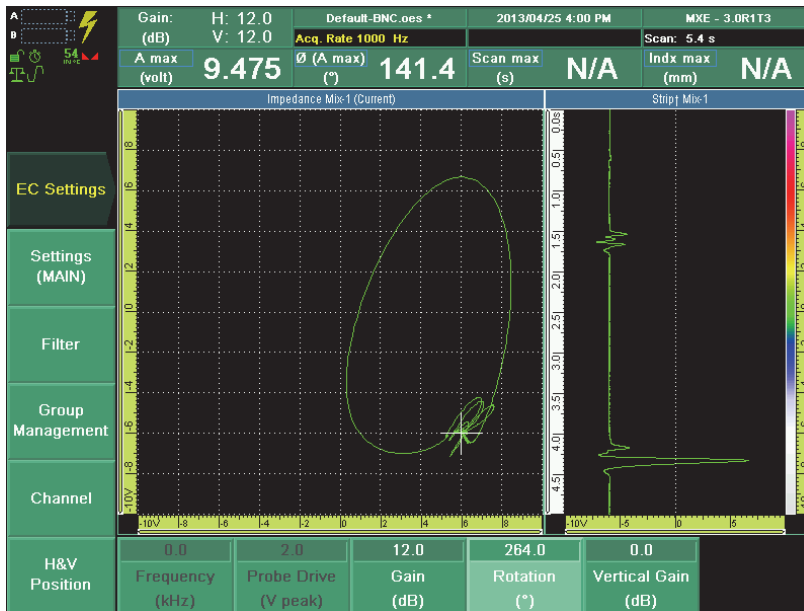

Figure 9-44 Fine-tuning the defect's signal to expand and rotate
1. Select **EC Settings > Settings (MAIN) > Gain (dB)**, set the value to expand the signal, ensuring that it spans approximately 6 grid divisions in the impedance plane view, and then press the Accept key to confirm. Typically, the **Gain (dB)** parameter value can be increased by 10 to 20 dB (see Figure 9-44 on page 190).